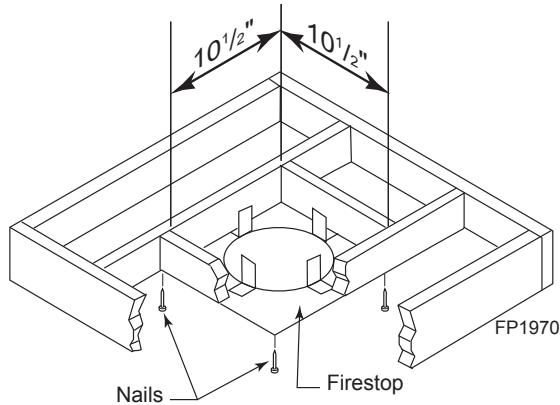
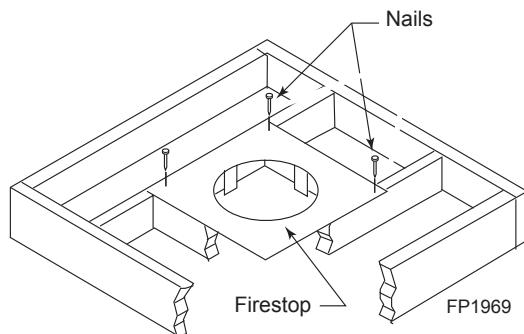

Figure 33 -
Figure 34 -
- Cut a 10½" (267 mm) square hole in the ceiling using the locating hole as a center point. The opening should be framed to 10½" x 10½" (267 x 267 mm) inside dimensions as shown in *Figure 33* using framing lumber the same size as the ceiling joist. If the area above the ceiling is an insulated ceiling or a room, nail firestop from the top side. This prevents loose insulation from falling into the required clearance space. *Figure 34*.
Otherwise, install firestop below the framed hole. The firestop should be installed with no less than three (3) nails per side. *Figure 34.*